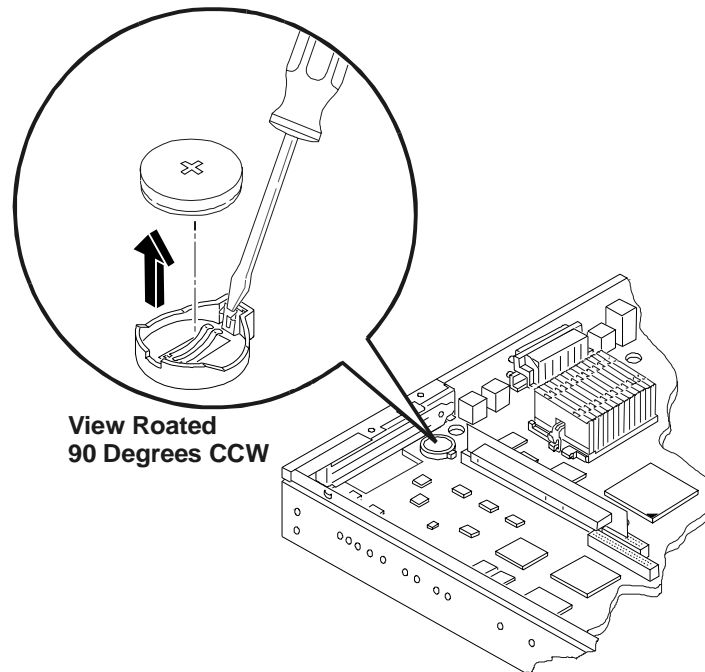

Figure 12-3. Battery on System Board
4. Insert a small flat-blade screwdriver or similar tool between the battery and spring latch. See Figure 12-3.